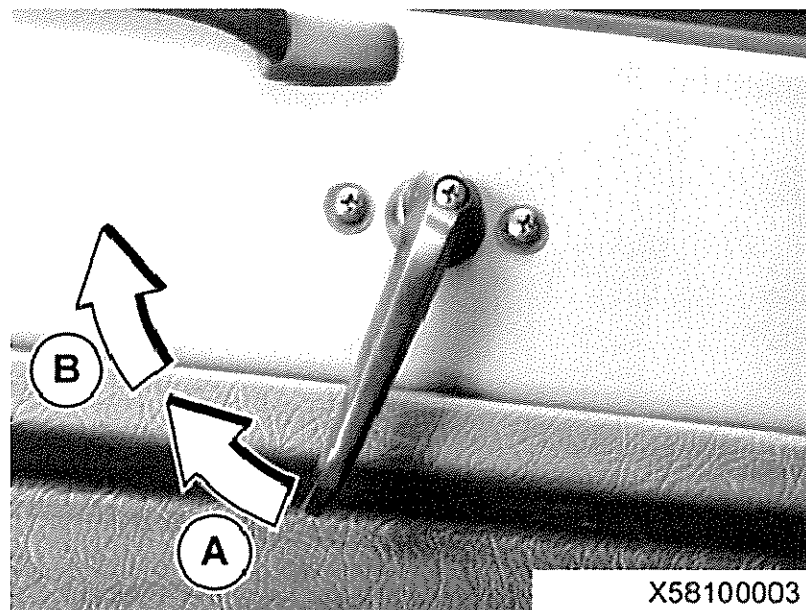

Fig 2 Operating the door (inside)
- 5 Refer to Fig 2. To unlock and open a door, proceed as follows: